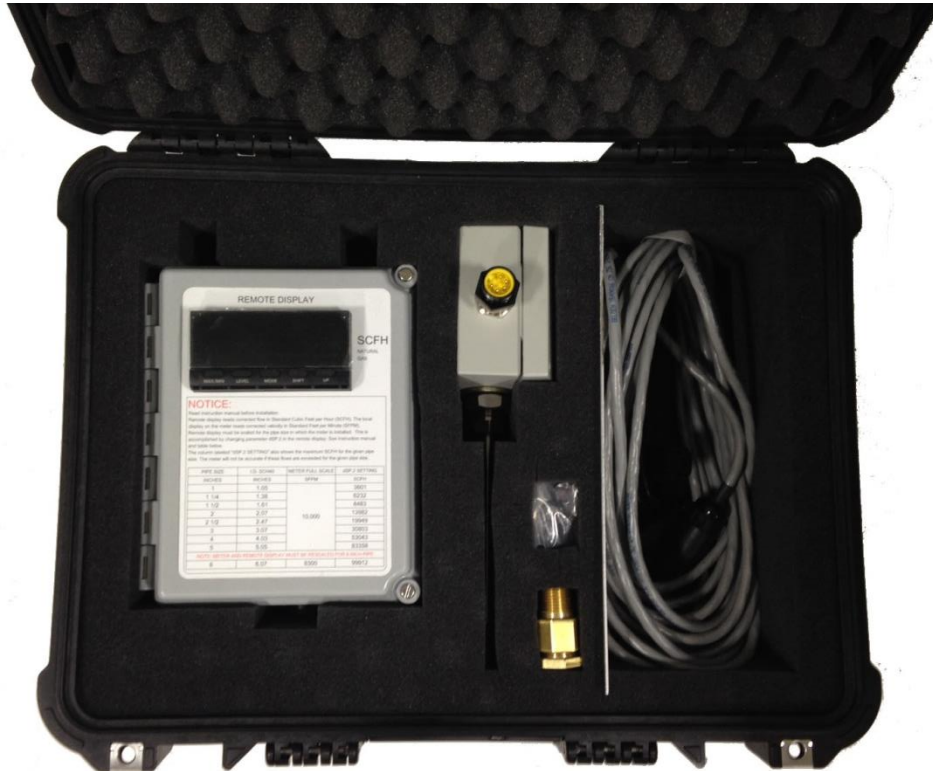

Figure 7: Flow Meter Kit Packaged in Case
14. After use, remove all power from the enclosure prior to de-pressurizing the gas piping and removing the flow meter and packing gland. Plug the half coupling where the meter was inserted. Place the flow meter and accessories back into the plastic case. When all components are put back into the case, the flow meter kit will appear as shown in Figure 7.